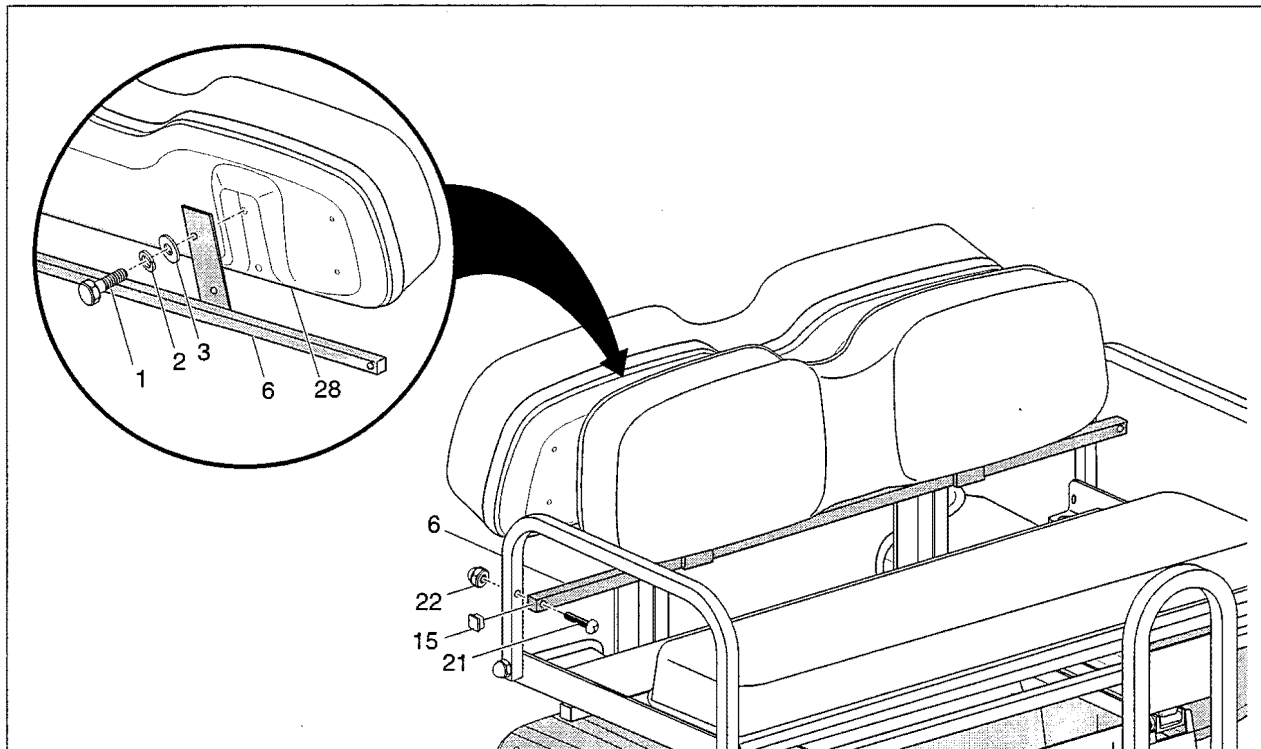

Fig. 6
H. INSTALLING SEAT BACK (Refer to Fig. 6)
1. Attach seat back (item 28) to seat back support (item 6) using bolt (item 1), lock washer (item 2) and washer (item 3). Tighten to 5 - 7 ft. lbs. torque.
2. Secure seat back to handrail using bolt (item 21) and acorn nut (item 22). Tighten to 5 - 7 ft. lbs torque.
3. Insert end plug (item 15) in each end of seat back support tube.